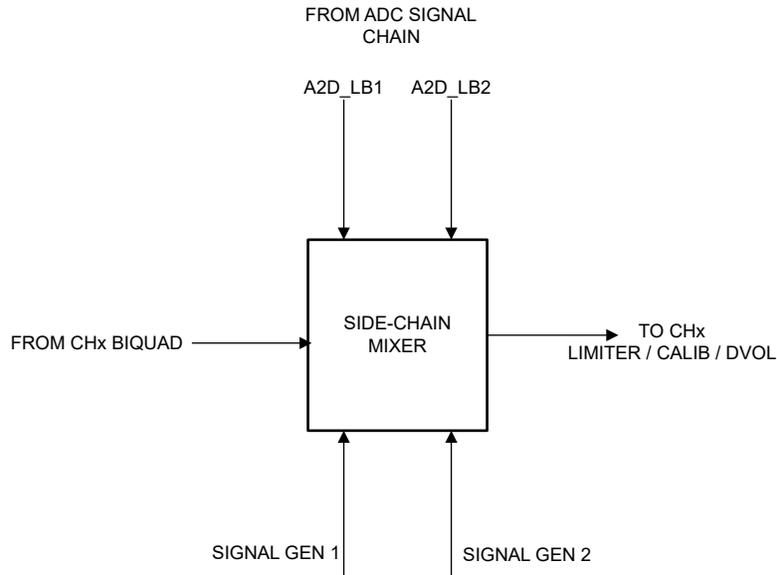

Figure 3-6. Side-Chain Mixer
A shown in Figure 3-6, the Side-Chain (SC) mixer mixes the following signals: